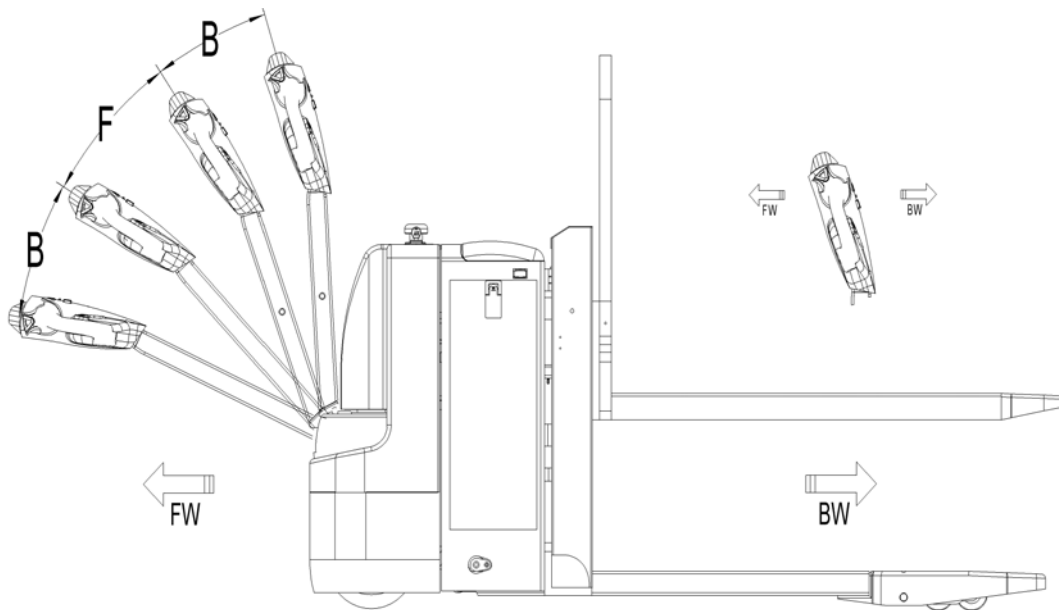

Fig. 9: Operating direction
After starting the truck by turning on the key switch (7), move the tiller to the operating zone ('F', fig.9).
Turn the accelerator button to the desired direction forward 'Fw.' or backwards Bw.'(fig. 9).